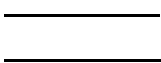

Figure 9. Test Setups
2. See Figure 9 and Table 17 for test specifications